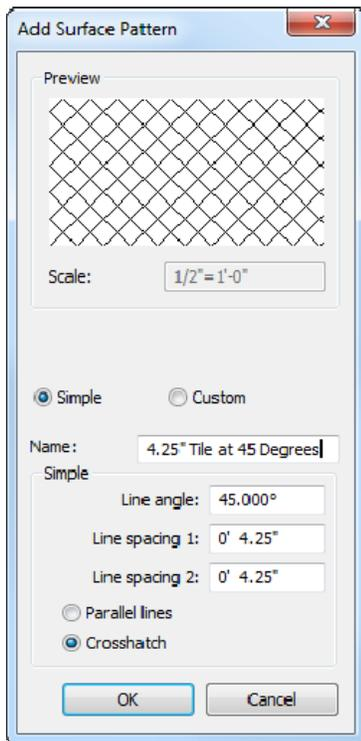

FIGURE 4-3.21 Add Surface Pattern dialog
79. Adjust the settings to match Figure 4-3.21; enter the *Name* **4.25" Tile at 45 Degrees**